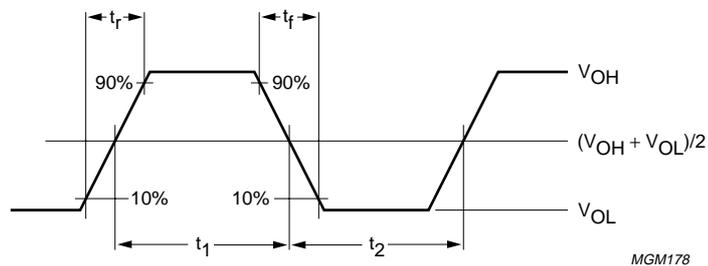

Fig.7 Definition of transition times.
1. The transition times and duty factor definitions are shown in Fig.7; $\delta = \frac{t_1}{(t_1 + t_2)}$